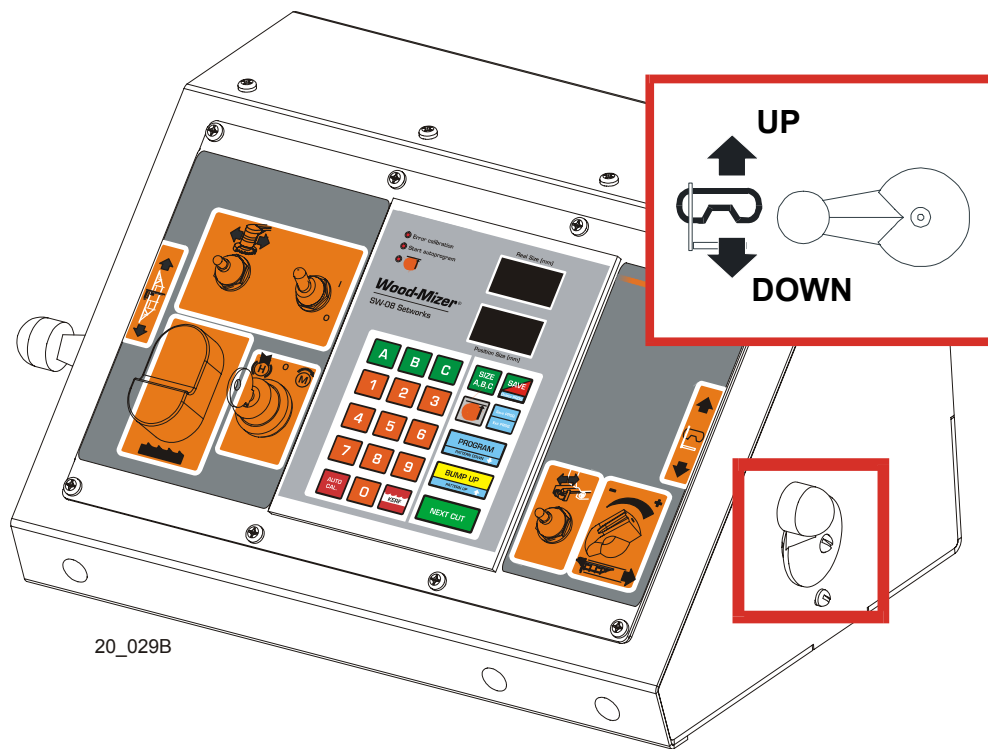

FIG. 2-13
**See Figure 2-13.** The up/down switch is located on the right side of the control panel. Push the switch up to raise the cutting head; push the switch down to lower the cutting head. Hold the switch in